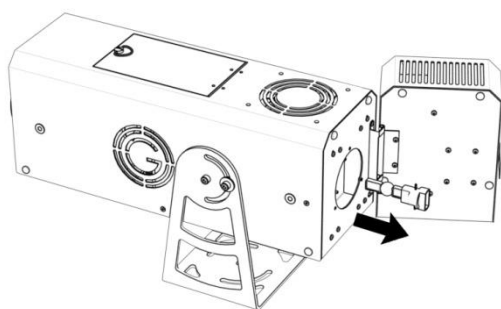

Fig.6
4. Remove the lamp (see Figure 6) and then replace it with the new inserting it into the slot interlocking. Turn it clockwise enough to allow complete and fixing it clicks.